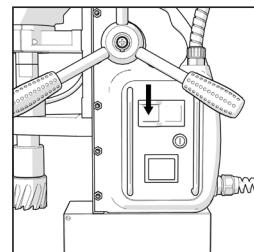

FIG. 4b
- Operate the green push switch (**Fig. 4b**) on the machine's switch panel to switch on the motor and the Red push switch to switch off the motor. (**Fig. 4c**)